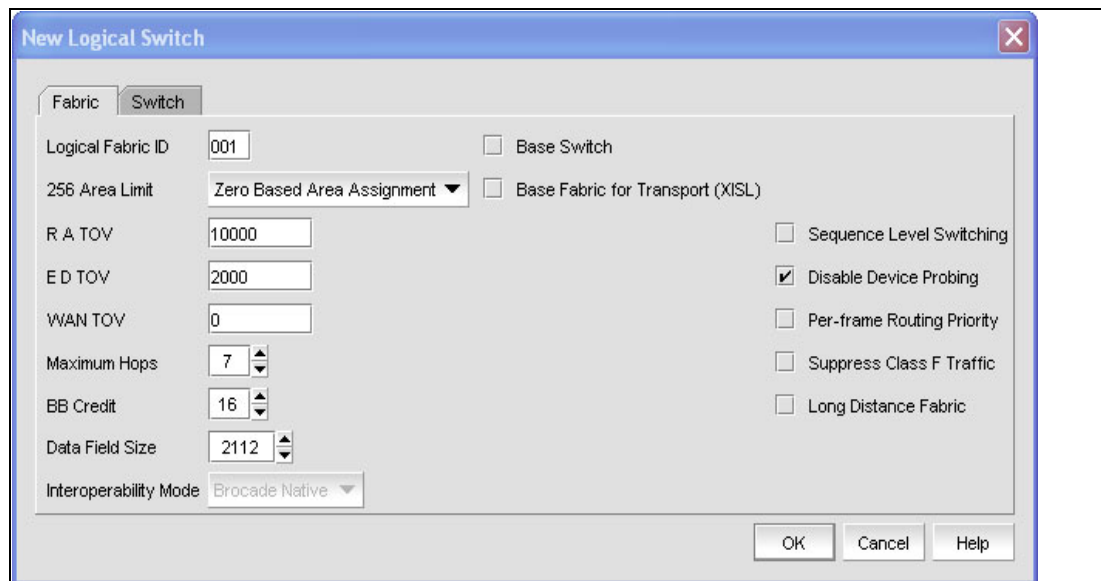

Figure 8-32 Logical switch configuration
10. Enter the desired settings for the fabric using the Fabric tab, as shown in Figure 8-32.